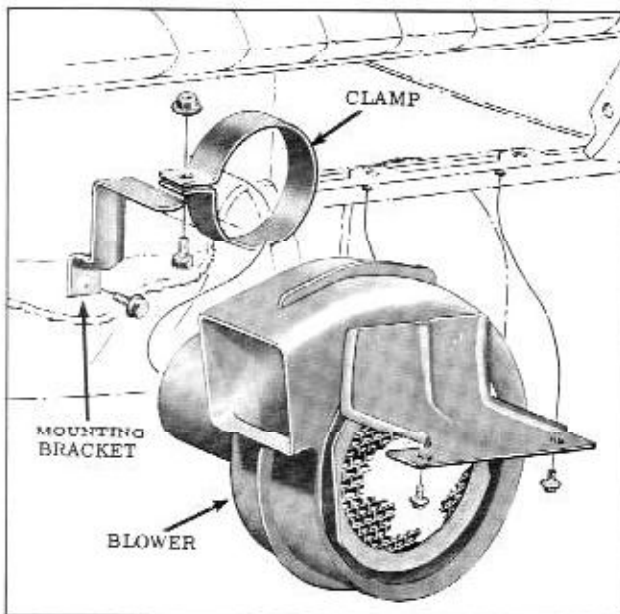

Fig. 14-21 Blower Assembly
2. Remove the blower motor clamp bolt and nut. (Fig. 14-21)